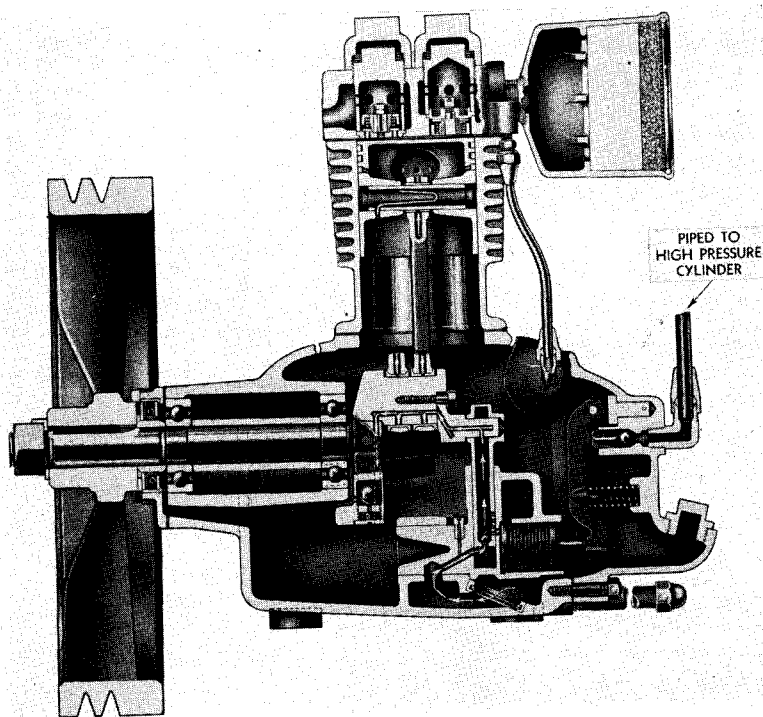

FIG. 3—TYPE "Y" AIR COMPRESSOR—SECTION THROUGH CRANKCASE AND LOW PRESSURE CYLINDER
- Fig. 3. Type "Y" Air Compressor — Section Through Crankcase and Low Pressure Cylinder.
A pressure unloader system (see Fig. 3), interlocked with the oil pump, is arranged to relieve pressure in the cylinders on stopping, and to prevent the application of load on starting until the motor has reached full speed. In event of an attempted start with low oil level, insufficient to operate the oil pump unloading system, the cylinders will remain unloaded and the compressor will not deliver full pressure. Further description of this device will be found on page 12 of this book.